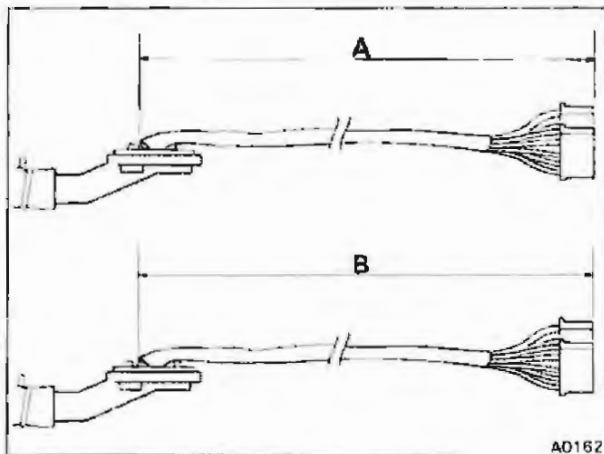

Fig. 1
- 1 Measure the length of the connector loom (see fig. 1).